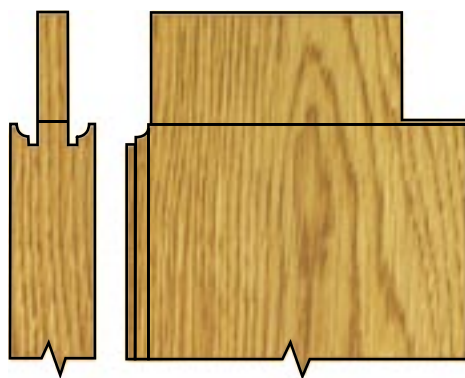

Figure 13
**a)** First, carefully “haunch” the tenons as shown in Figure 13. This step produces a stronger and more attractive joint and conceals the tenon within the end of the stile. Cut the haunched tenon with a band saw, jig saw or handsaw.